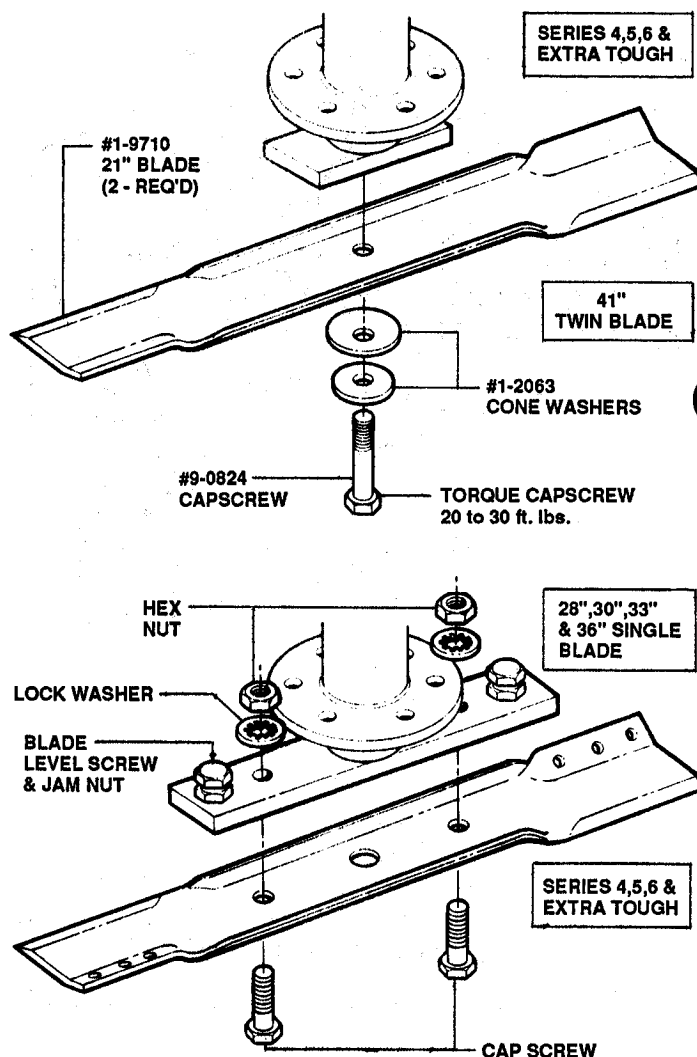

FIGURE 3.9
- Use 2 **SNAPPER 21" BLADES** on **41" TWIN BLADE Models**. Secure blades as shown in Figure 3.9 and torque capscrew to 20-30 ft. lbs.
- Use appropriate **SNAPPER BLADE** on **28", 30", 33" and 36" SINGLE BLADE Models**. Secure blade as shown in Figure 3.9 and torque capscrews to 70-80 ft. lbs.
- Loosen jam-nuts on top of adjustable blade bar. Refer to Figure 3.9.
2. To correct measurement, loosen blade bar jam nuts and adjust screws in or out. Refer to Figure 3.9.